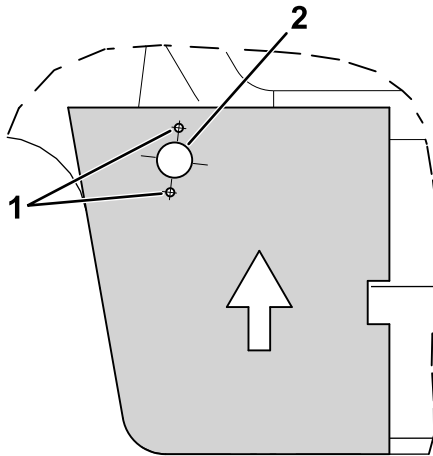

Figure 2
3. Drill 3 holes into the hood as shown in Figure 2.